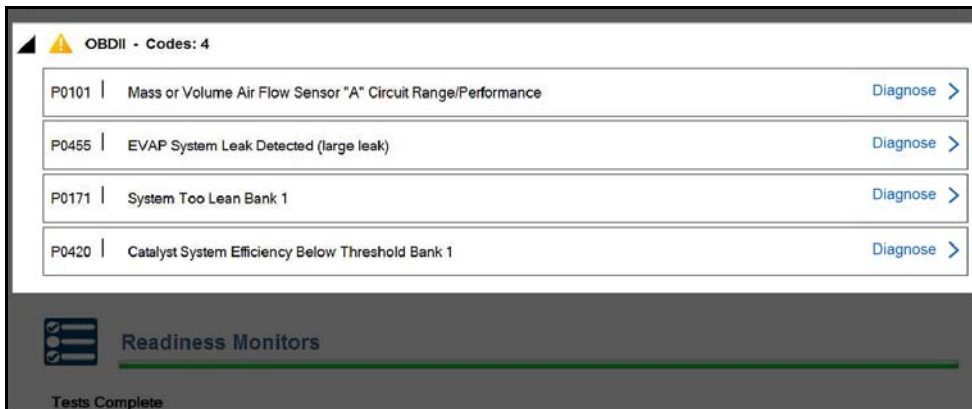

Figure 4-17 OBD-II code results
- **Global OBDII DTCs.** Towards the end of the Code Scan list Global OBD-II DTCs are displayed (if applicable) (Figure 4-17).